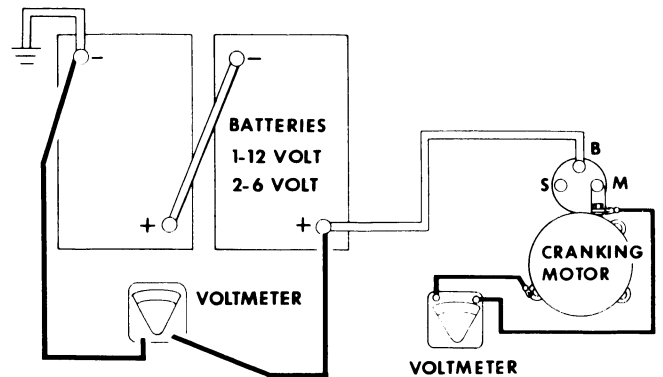

Figure 5 - Cranking Check
1. Connect a volt meter (12 volt) between the positive and negative posts of the batteries, Figure 5.
2. Connect voltmeter (12 volt) between the cranking motor terminal and ground on cranking motor, Figure 5.